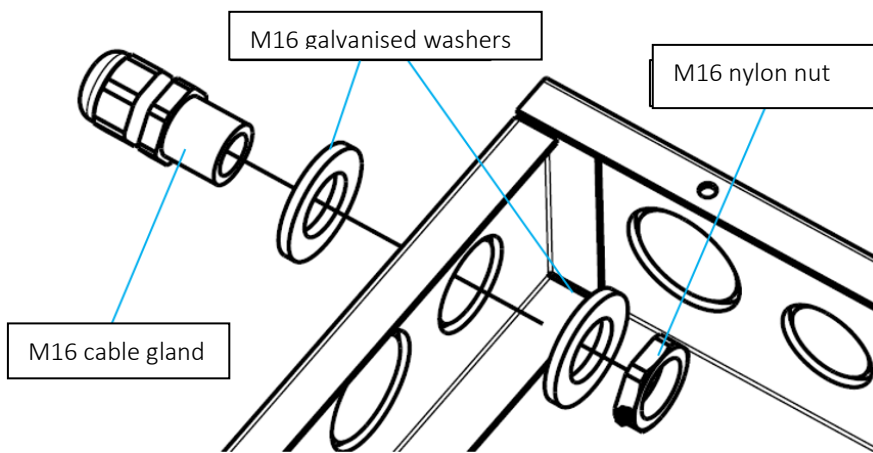

Fig. 40 Cable gland installation diagram
- C. Fasten the cable gland to the junction box as shown in Figure 40.
- Fasten the cable gland to the junction box, as shown in Figure 40.